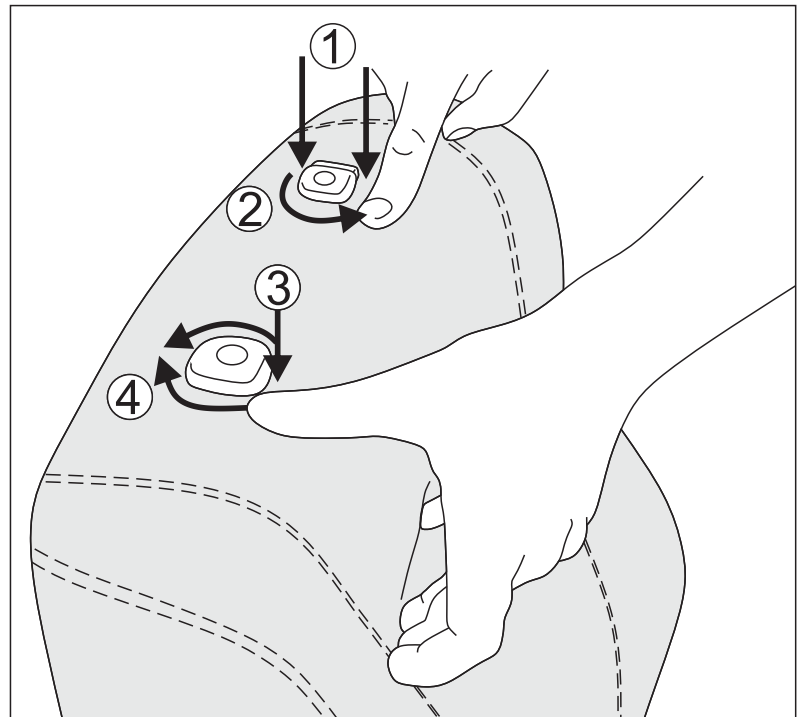

Fig.4
4. Using your fingers, push backrest cover under headrest guide mechanisms to hold the top part of the backrest cover in place and centrally aligned (Fig.4).